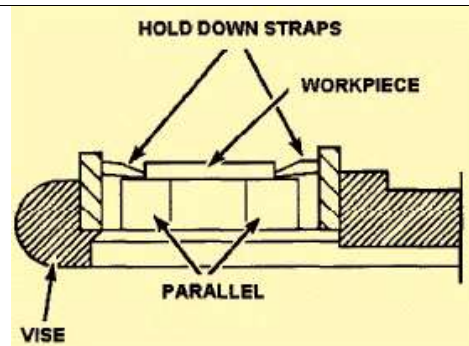

Figure 8-24. Application of hold-down straps.
**Straps:** Are hardened pieces of steel, having one vertical side tapered to form an angle of about 92° with the bottom side and the other vertical side tapered to a narrow edge. By means of these tapered surfaces, the workpiece is forced downward into the parallels, holding them firmly and leaving the top of the workpiece fully exposed to the milling cutter. If the workpiece is so thin that it is impossible to let it extend over the top of the vise, hold down straps is generally used. (Figure 8-24).